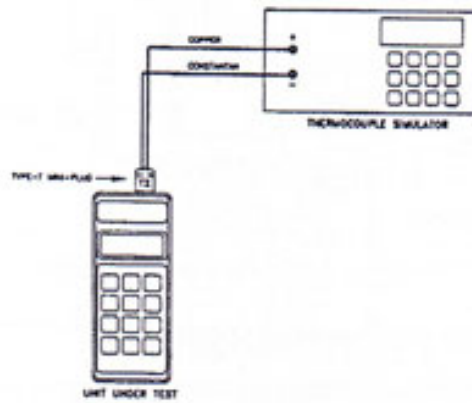
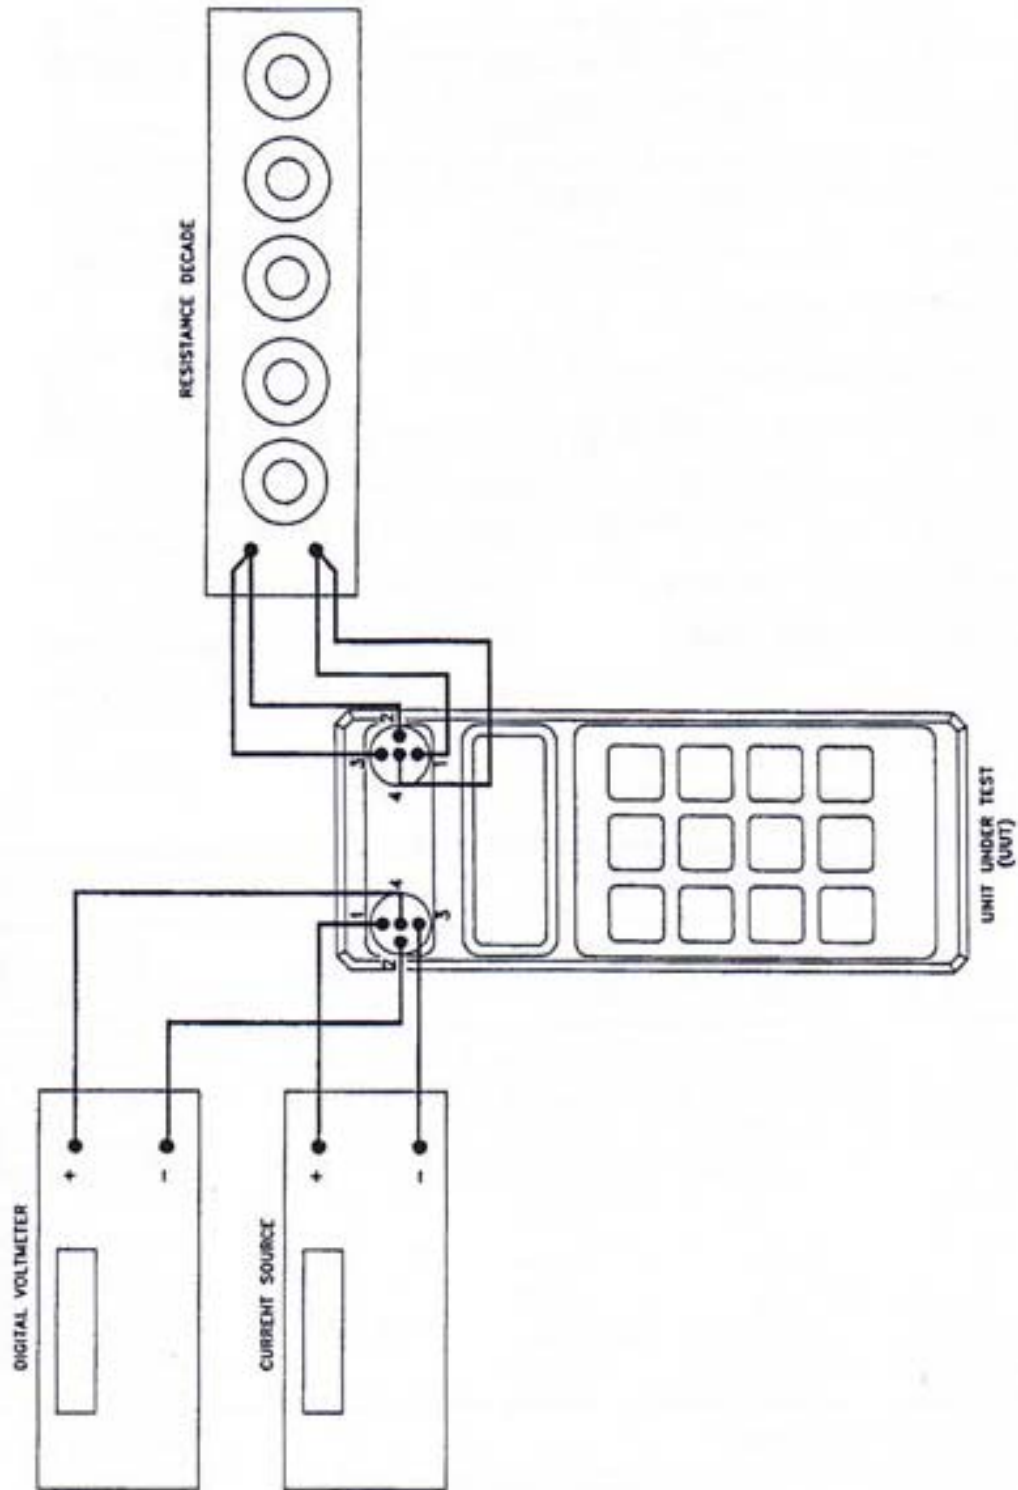

Figure 12. Calibration Setup, Meter Mode.
Figure 14. Resistance Calibration Setup
NOTE: The copper constantan cables used in Figures 12 and 13 need to be calibrated. Voltage errors in these cables should be compensated at the simulator.
10. Reconfigure calibration set-up per Figure 12. Allow 2-3 minutes for thermal stabilization.
4. Calibration cables per Figure 14.
3. Hook up test-equipment and unit per Figure 14.
Calibration is verified with the same instrument hookups as used for calibration (ie. Figures 12 and 13 for thermocouple functions, Figure 14 for resistance functions).